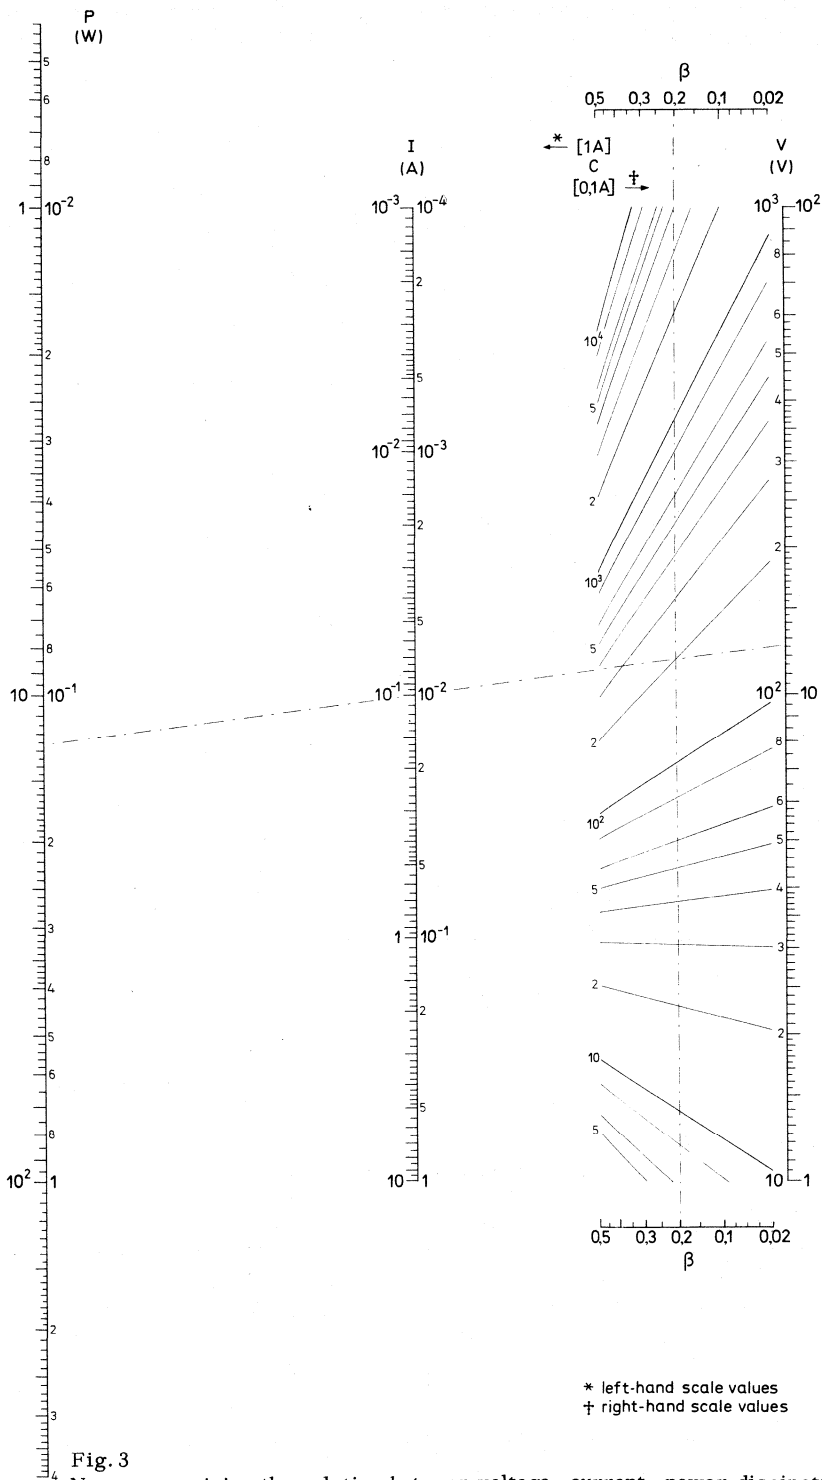

Fig. 3
To avoid cumbersome calculations with broken exponents eq. (1) is elaborated into a nomogram, Fig.3, which gives by a simple construction the corresponding values of voltage and current for any given VDR.
According to formula (1) it is possible to specify the electrical characteristics of a VDR resistor by giving its C- and β -values. The advantage of this specification is that only two parameters are used. The disadvantage is, however, that due to the inevitable tolerances on the β -values, the spread in voltages at low currents (in the working area) becomes very large. It is for this reason that the method of specifying by the C-value defined at 1 A is abandoned and we now specify the voltage across the VDR at currents which lie in the working area (1, 10 or 100 mA instead of 1 A). In this way it is possible to supply VDR's which have much closer tolerances in the area where they are used, see Fig. 14. In theoretical calculations it is much easier, however to use the C-value. Therefore the formula $V = CI^\beta$ is used. When a calculation leads to a certain C-value, the voltage at currents of 1, 10 or 100 mA can be found with the aid of the nomogram (Fig. 3).